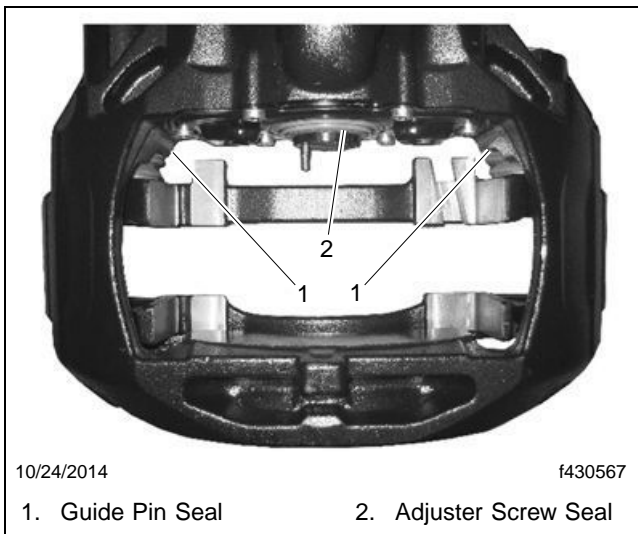

Fig. 8, Adjuster Screw and Guide Pin Seals
31. Using a wire brush, remove any corrosion on the spreader plate, brake pad slots, and the spreader plate guide on the brake caliper. Be careful not to damage the adjuster screw or guide pin seals. See **Fig. 8**.